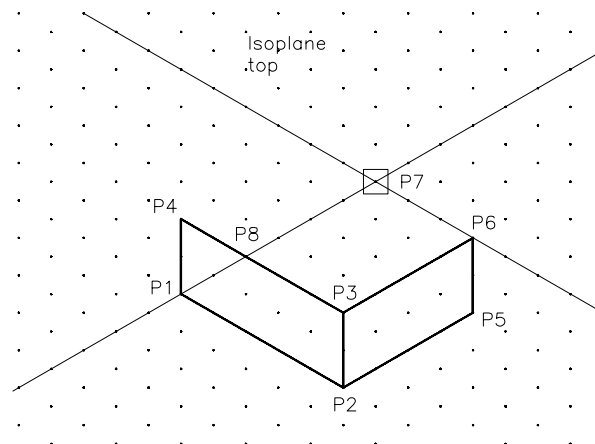

Figure 23-11 Drawing the top face
4. Change the isoplane to isoplane top by pressing the F5 key. Invoke the **LINE** command and draw the lines, as shown in Figure 23-11.